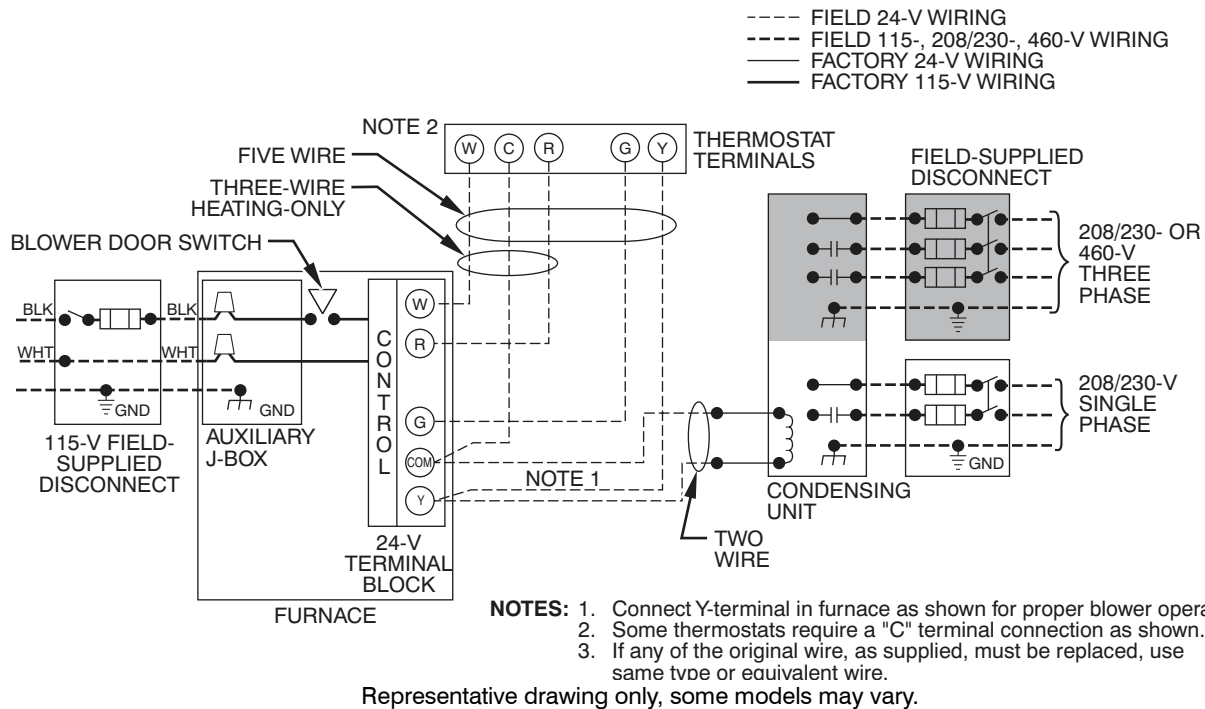
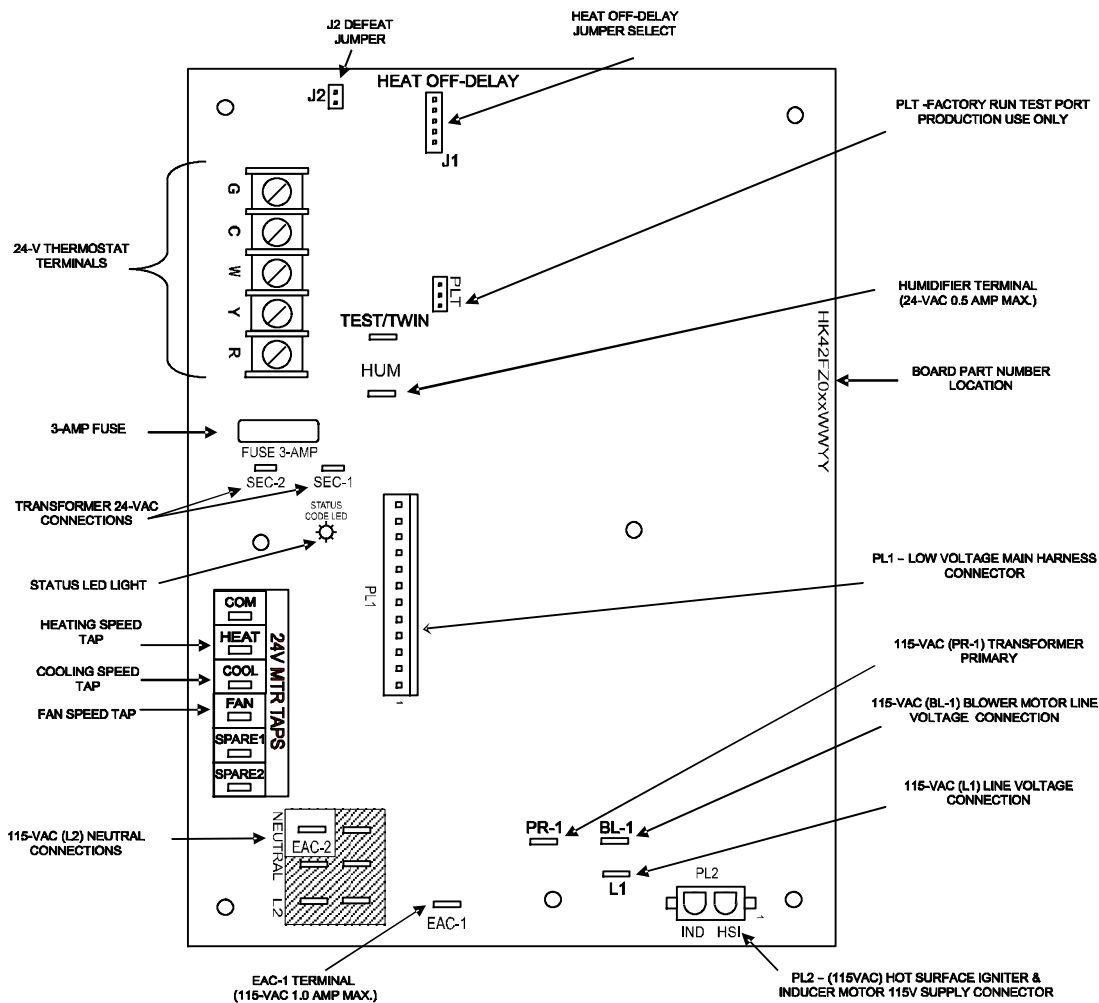

Fig. 36 - Typical Single-Stage Wiring Diagram
Fig. 37 - Example of Single Stage Furnace Control
See Fig. 36 for field wiring diagram showing typical field 115-v wiring. Check all factory and field electrical connections for tightness.
6. Connect power cord power and neutral leads to furnace power leads as shown in Fig. 36.
5. Connect field power and neutral leads to furnace power leads, as shown in Fig. 36.
Make field 24-v connections at the 24-v terminal strip. See Fig. 37. Connect terminal Y as shown in Fig. 36 for proper cooling operation. Use only AWG No. 18, color-coded, copper thermostat wire.
The 24-v circuit contains an automotive-type, 3-amp. fuse located on the control. Any direct shorts during installation, service, or maintenance could cause this fuse to blow. If fuse replacement is required, use **ONLY** a 3-amp. fuse of identical size. See Fig. 37.
Accessories (See Fig. 37.)